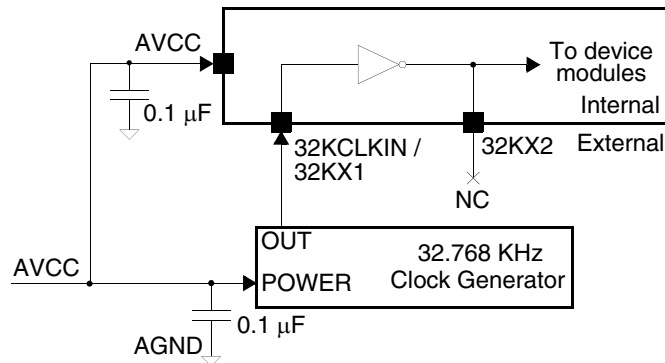

Figure 4. External Oscillator Connections
32.768 KHz can be applied from an external clock source, as shown in Figure 4.